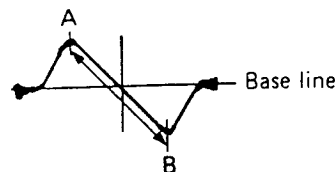

Fig. 11
- Note 2: Cause an S curve to appear on the screen by FM IFT as shown in Fig. 11, and adjust it until points A and B are positioned symmetrically, and the A-B line becomes linear.